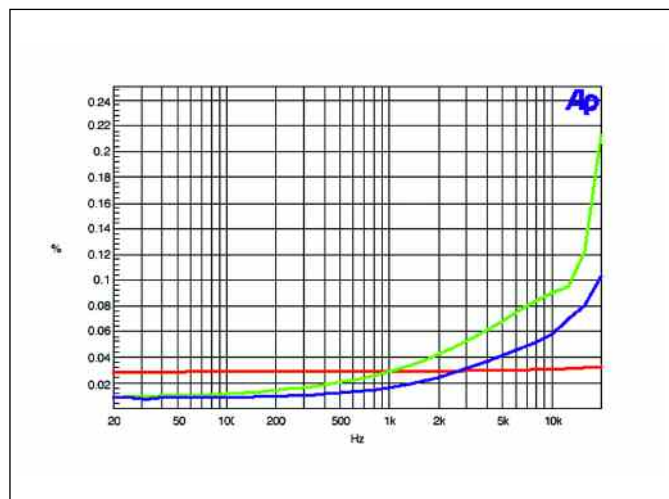

Figure 2: THD versus frequency at 8 ohms. (Red = 25 watts; Green = 200 watts; Blue = 800 watts)
**Figure 2** shows THD (total harmonic distortion) versus frequency at 8 ohms. Three sweeps were run at various power levels, and all levels looked good. I also measured bandwidth at 20 Hz to 20 kHz, which remained very consistent throughout.